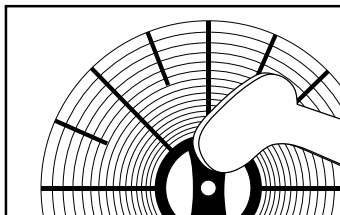

Fig. 11
4. Use the brush attachment with your vacuum cleaner. Run the attachment along both sides of the Nano-Coil filter, taking care not to dislodge the combs. See Fig. 11
5. Use the brush attachment with your vacuum cleaner. Run the attachment along both sides of the pre-filter. See Fig. 11